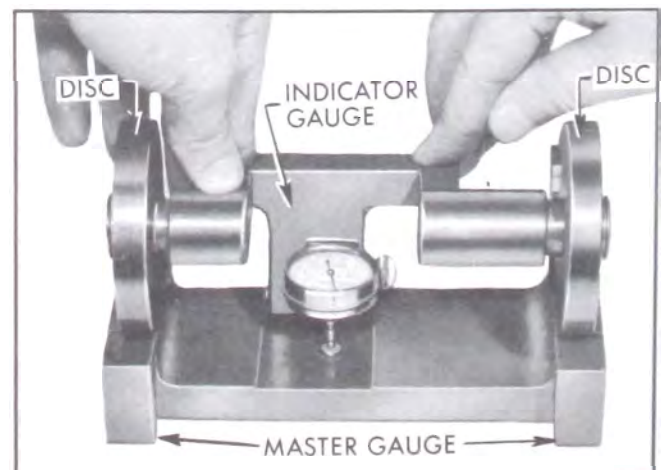

Figure 6-29—Zeroing Pinion Setting Gauge J-8619
Pinion Setting Gauge J-8619 consists of a master gauge and an indicator gauge upon which a dial indicator is mounted. The master gauge is used for zeroing the indicator gauge. See Figure 6-29.
and install the small contact button on the stem of the dial indicator. Mount the dial indicator on the indicator gauge. See Figure 6-29.
5. Hold yoke down firmly, with both discs contacting the horizontal and vertical pads on master gauge, and set the dial indicator at zero. See Figure 6-29.